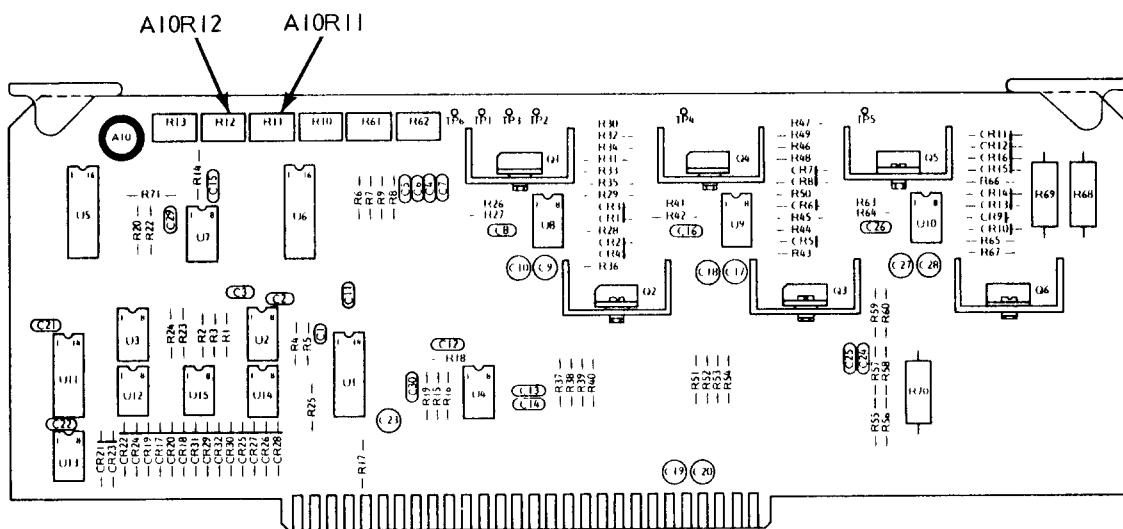

Figure 5-26. 8-12.4 and 12.4-18.6 (or 20) GHz Band (Osc 2 and 3) Frequency Adjustments
5. Using care to prevent the frequency from going below 8.000 GHz, adjust A7R2 (Figure 5-26) for 8.050 GHz  $\pm$  1 MHz, as indicated on the counter.
5. Using care to prevent the frequency from going below 12.400 GHz, adjust A8R2 (Figure 5-26) for 12.450 GHz  $\pm$ 1 MHz, as indicated on the counter.